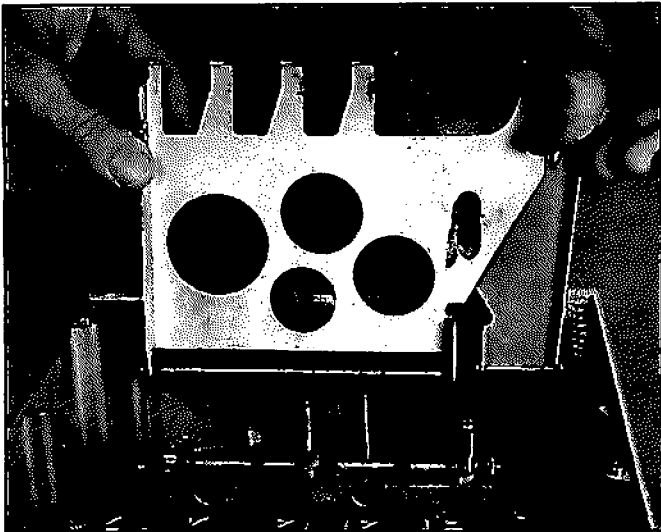

Figure 4. Lifting Rakes.
4. Lift both rakes away from the wheels in the Preset (Figure 4).